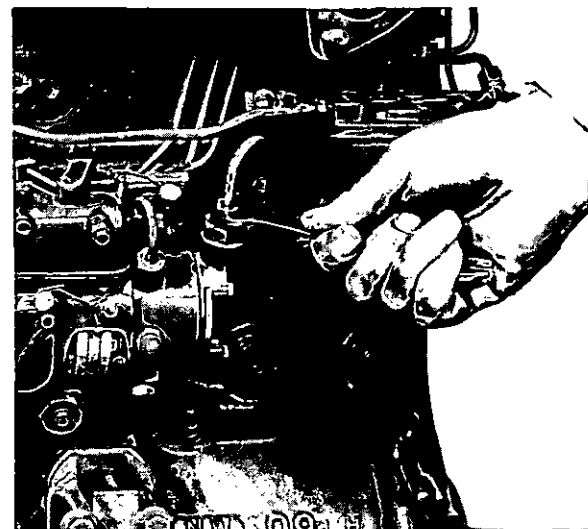

Fig. L.6
4. Slacken pipe union nut at fuel pump inlet (Fig. L.6). Operate priming lever and retighten when fuel oil, free from air bubbles, issues from around threads.